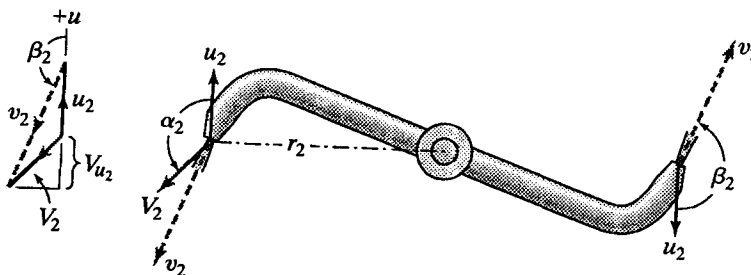

Figure. 6.14
- 6.46 Given a lawn sprinkler such as that in Fig. 6.14 with $\beta_2 = 160^\circ$, in which the total area of the jets at a radius of 15 in is 0.0008 ft^2 . When $h = 144 \text{ ft}$, compute the rate of discharge, the torque exerted by the water, and the power developed if the rotative speed of the sprinkler is 400 rpm. Neglect fluid friction, but note that the calculated torque must overcome mechanical friction and air resistance.